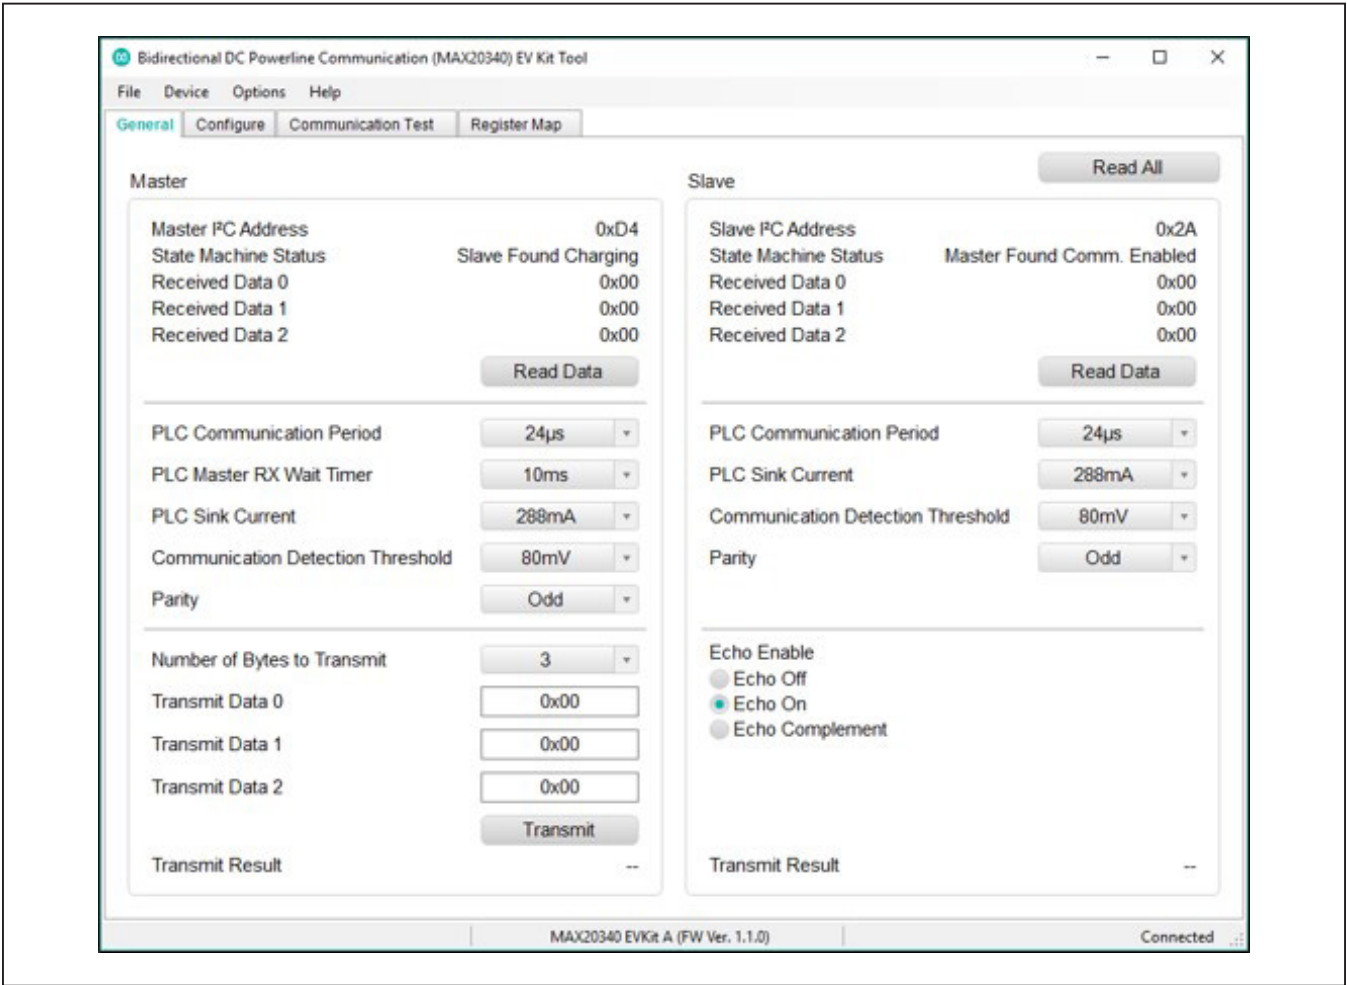

Figure 8. MAX20340 EV Kit GUI Connected to the Master and Slave Board.
- 4) Run the MAX20340 EV kit GUI. The GUI automatically connects to the “Master and Slave” board and the master and slave are both found automatically (see Figure 8).